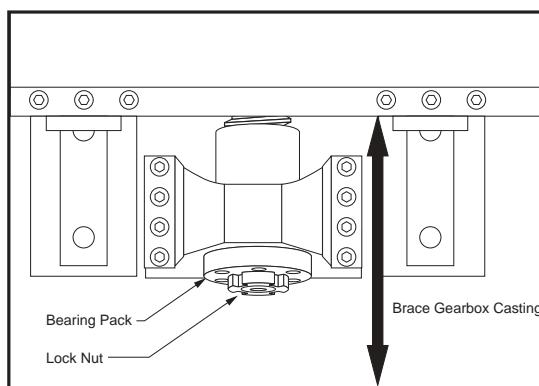

Figure 3.12-5
8. Brace the gearbox casting to prevent it from movement when disconnected from the nut. Use a block of wood or other such material that will not cause damage. (See figure 3.12-5.)